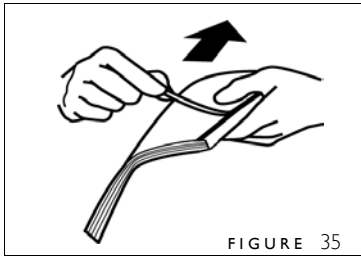

FIGURE 35
2. Peel off the thin release paper at the **front** of your book block (figure 35).